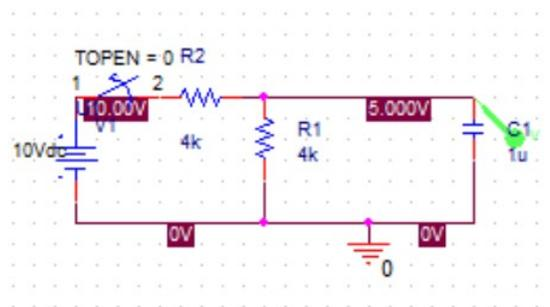

Figure 2: RC Circuit in PSPICE
- Add a voltage marker by clicking , which is the voltage marker, and put it at the node as shown in Figure 2. Note that a voltage marker indicates the node voltage of the marked position with respect the GND node. We want to observe the voltage across the capacitor with respect to time.
17. Run the simulation by clicking the “Run Pspice” tab. The simulation result will pop up, with the voltage as a function of time plot shown (Figure 2).
18. On the graph, draw a line at $0.3678 \cdot v_C(0)$. Then use the cursor command to locate the time constant. Record this value. To obtain the cursor, click on Trace->Cursor->point. Look in the trace box at the lower right hand corner for the corresponding value in time domain (X).
Use PSPICE to obtain the transient response for the voltage across the capacitor for $R=8.5\text{ k}\Omega$, $R=4\text{ k}\Omega$, and $R=1\text{ k}\Omega$ in the circuit in Figure 2. In the Transient Analysis use a value of 50 ms.